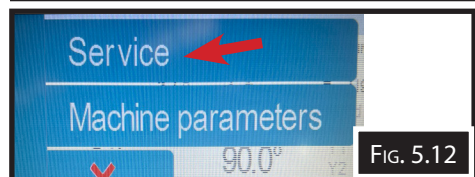

FIG. 5.12
5. Press "Service" Button (Fig 5.12)